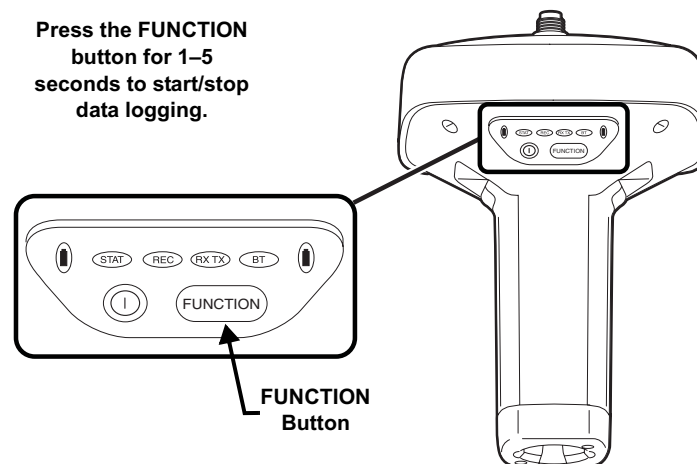

Figure 4-6. FUNCTION Button Functions
**To start/stop logging data,** press the **FUNCTION** button for 1–5 seconds (Figure 4-6).